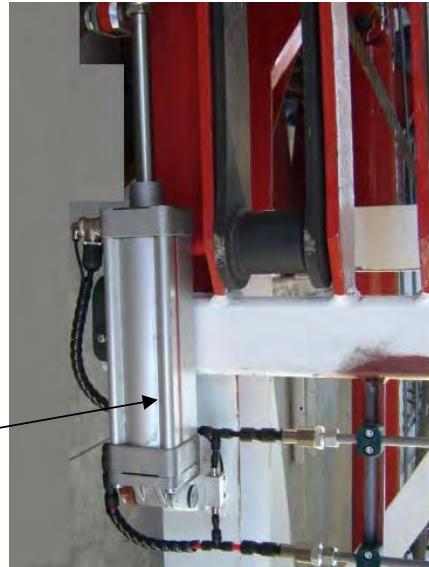

Fig. 5
- When folding the upper section of the mast was completed (see Fig.1 and Fig.2), block up pneumatic cylinder will be actuated in order to secure that latch for it. The block up pneumatic cylinder (Fig.5) is acting against hooks-belonging to the latch system for folding the mast-to secure locking between lower and upper sections of the mast. That Running the block up pneumatic cylinder is possible by means of that pneumatic distributor mounted with the auxiliary control panel, located on the right-back side of the carrier (Fig.6).